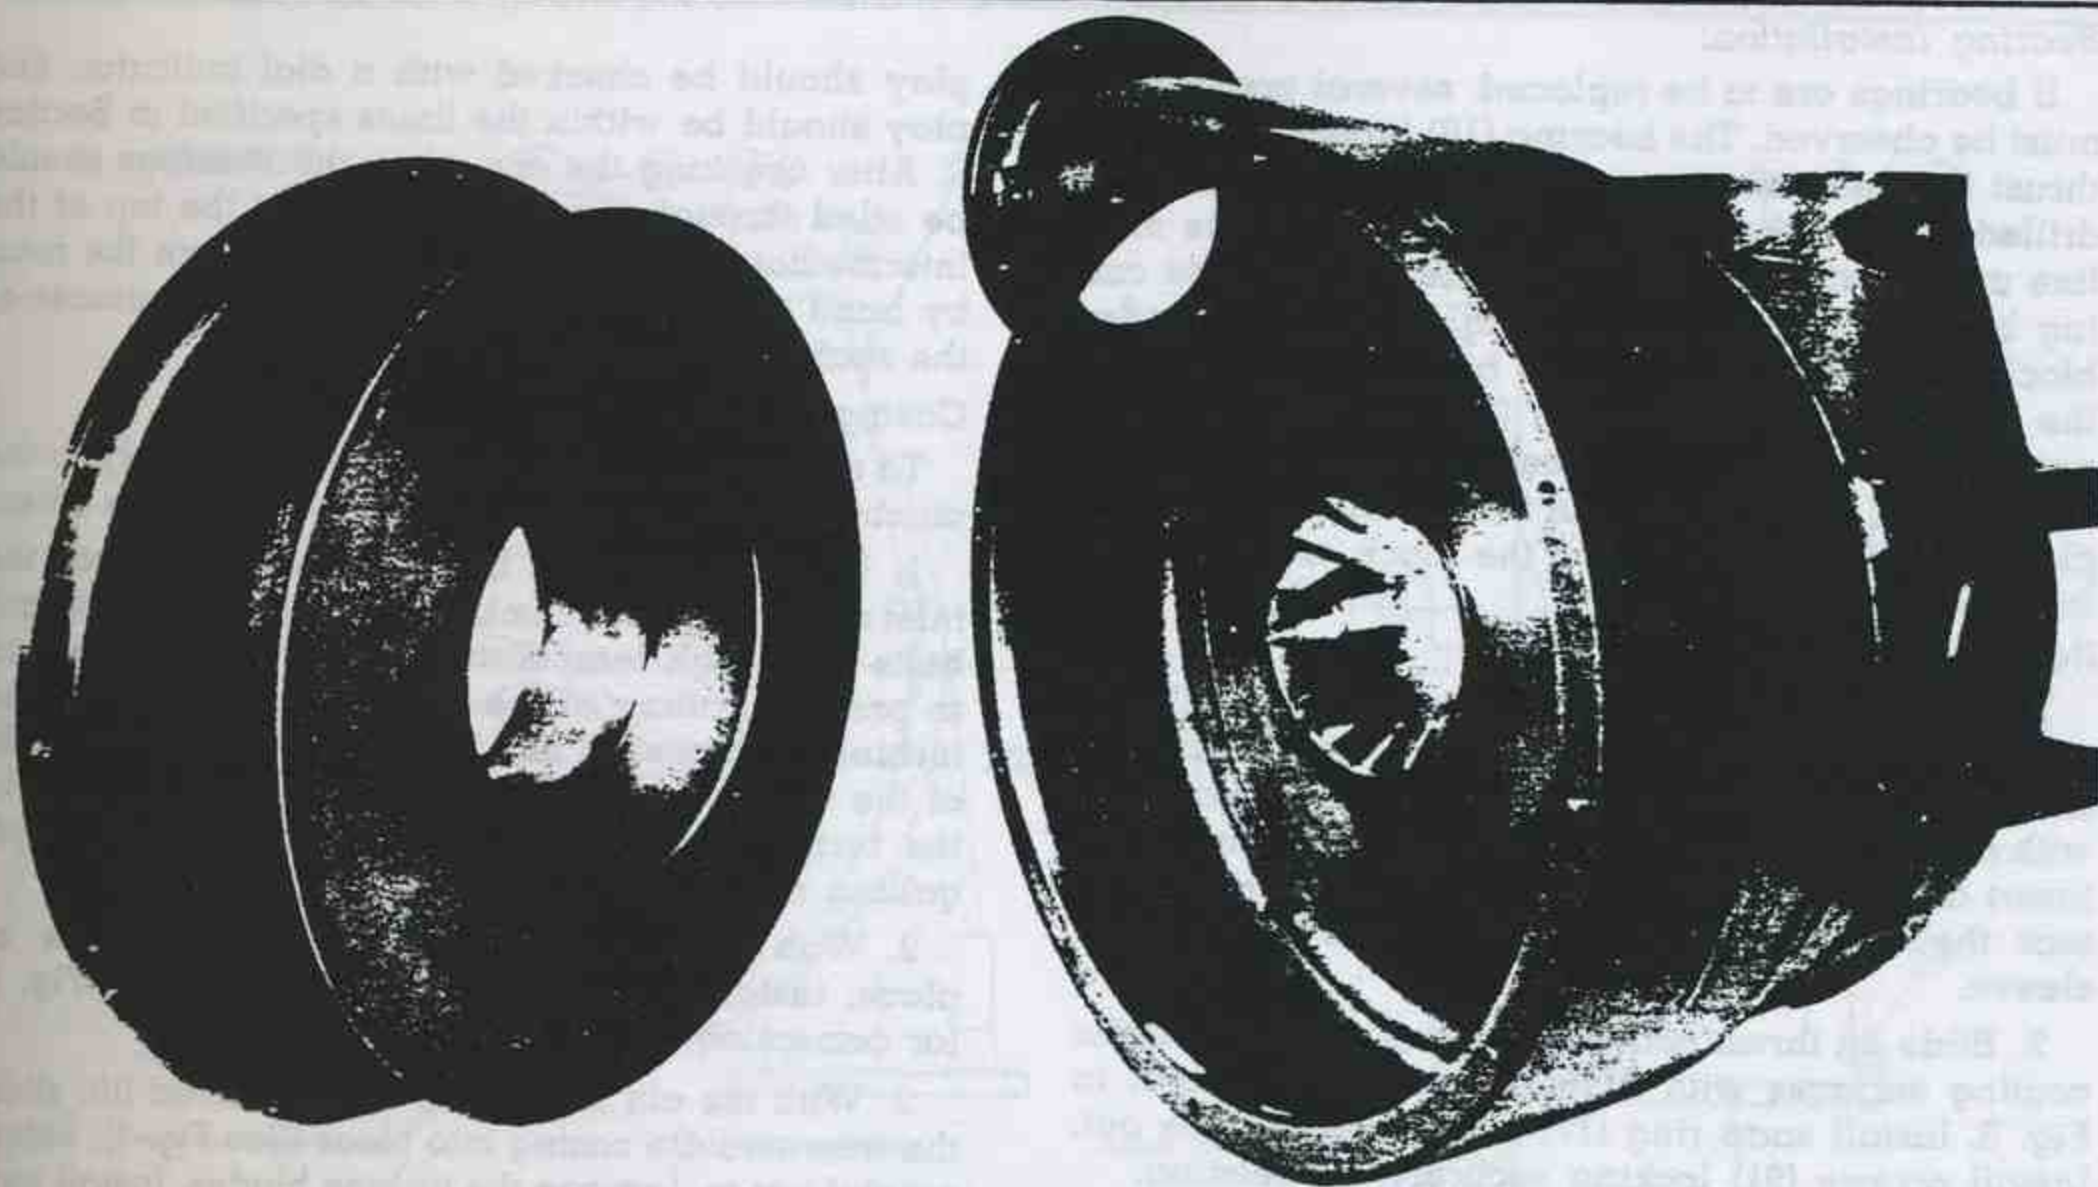
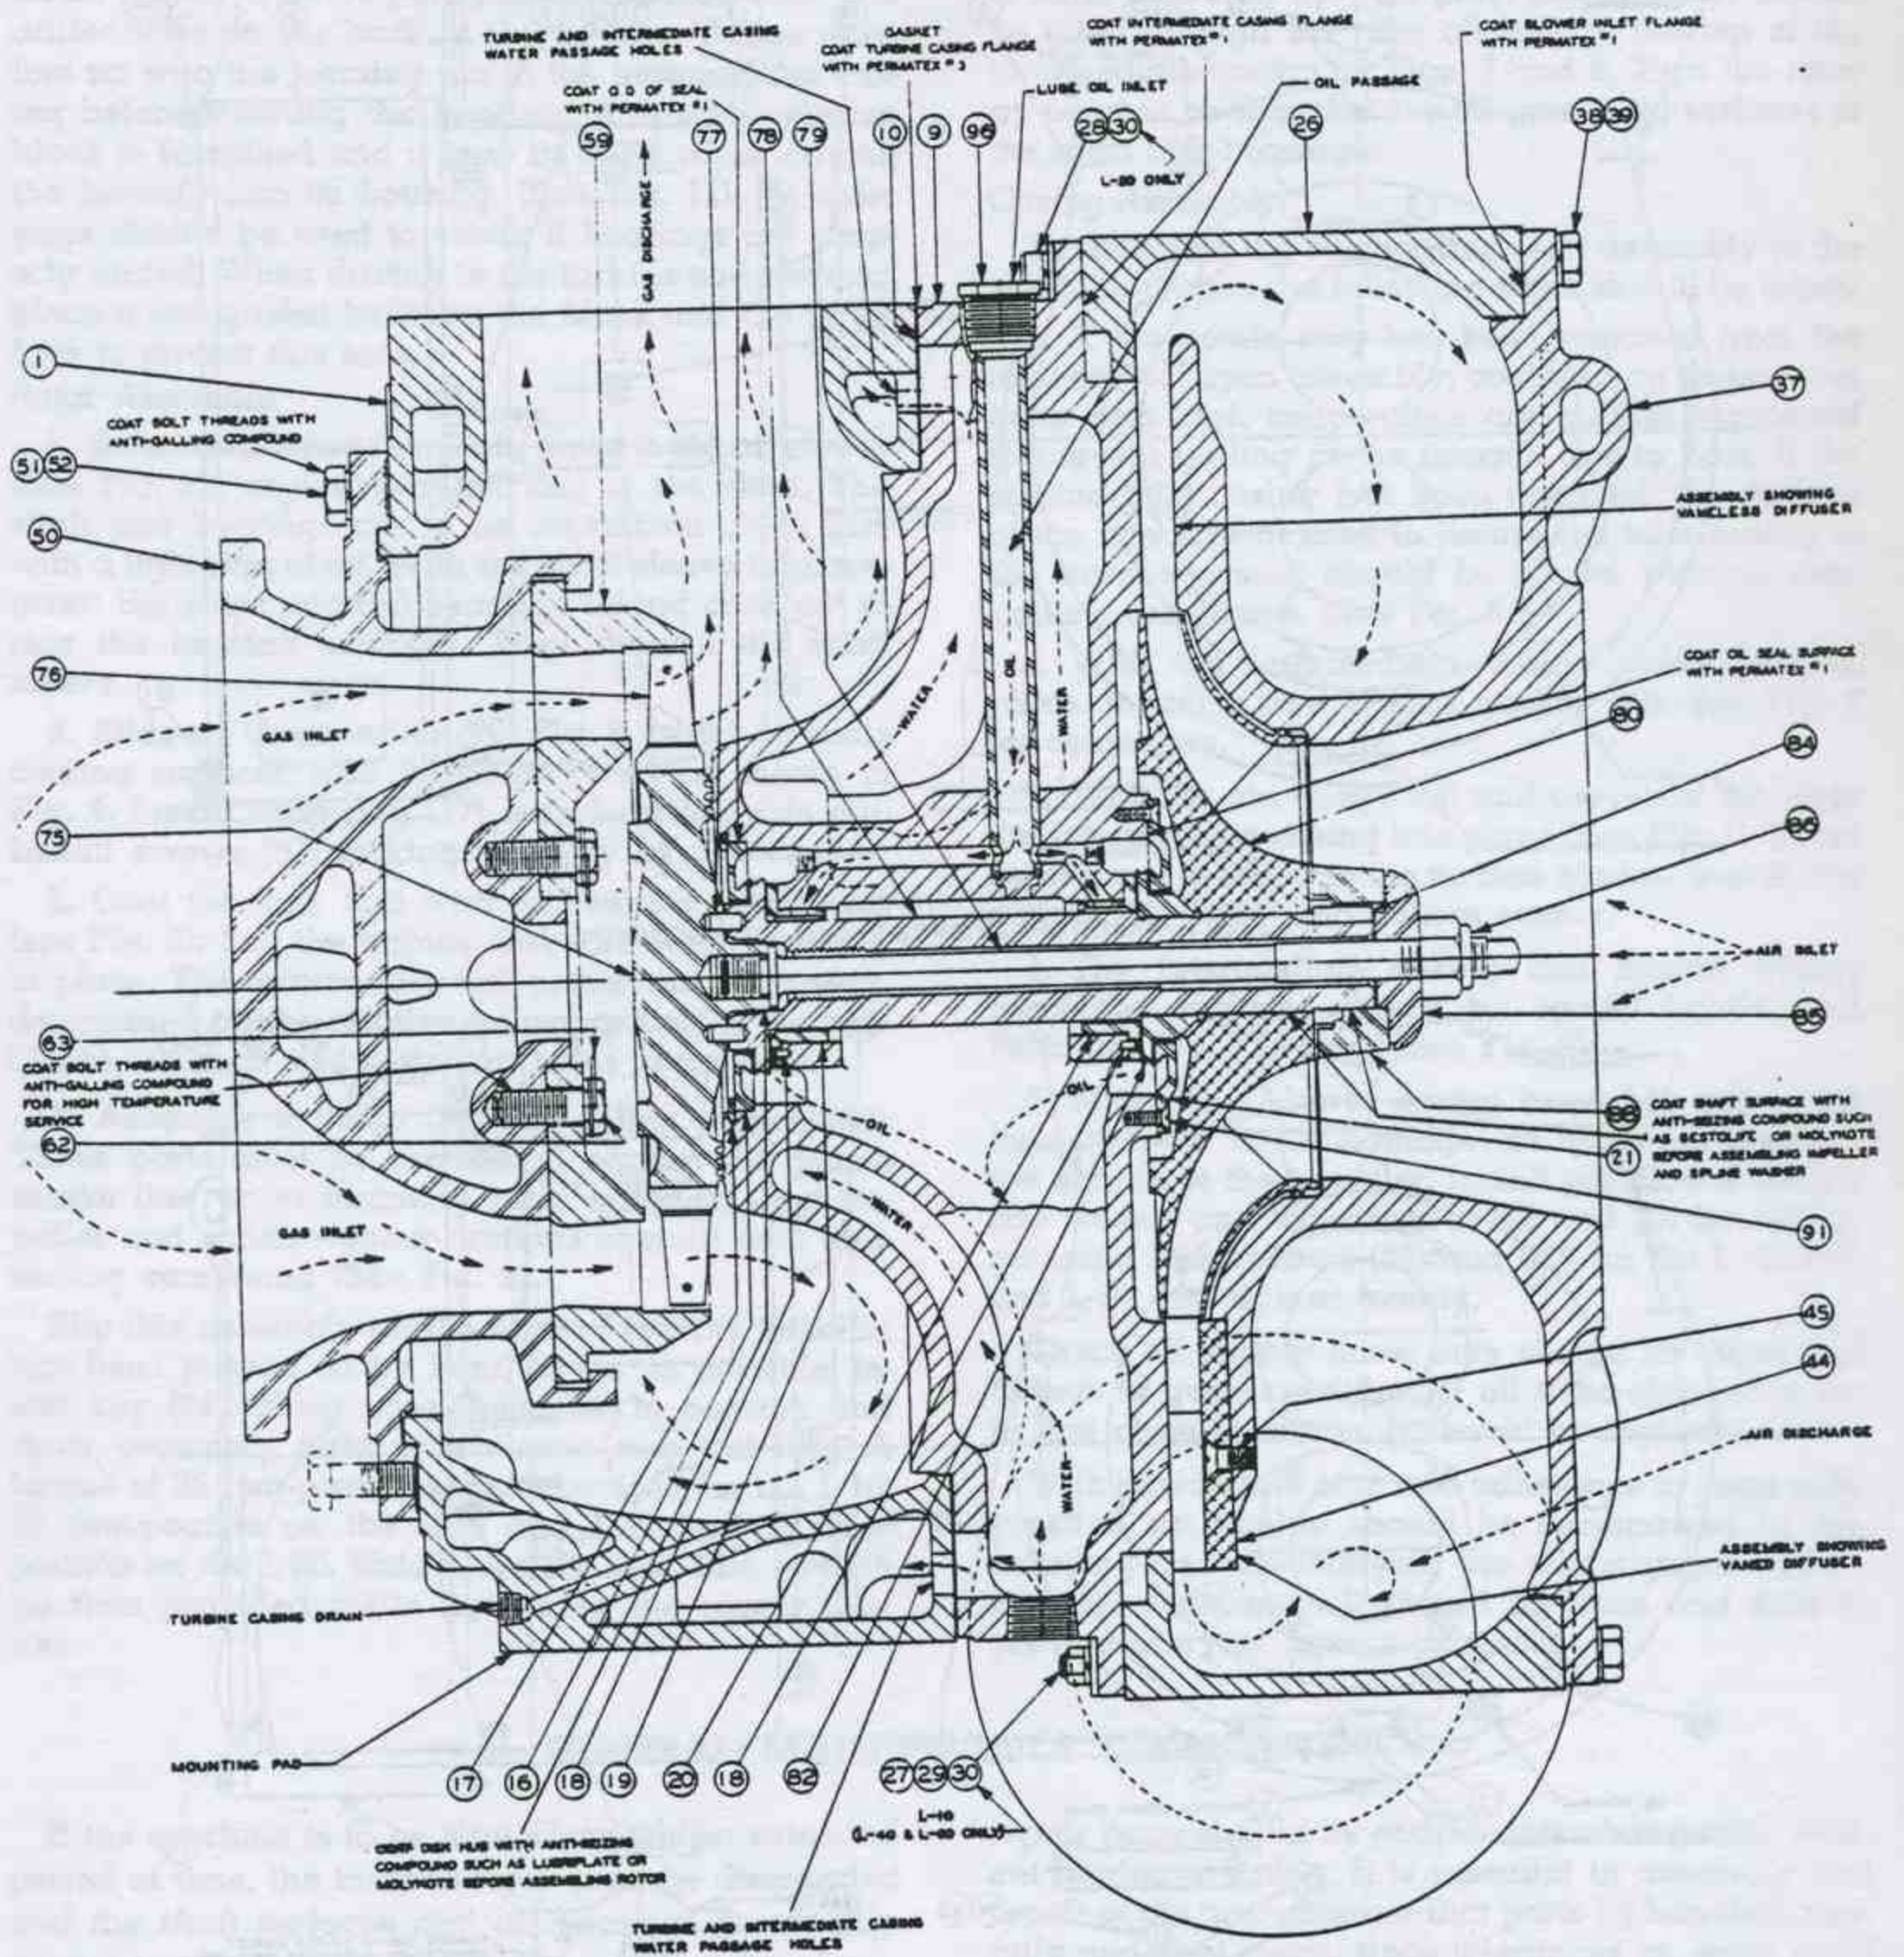
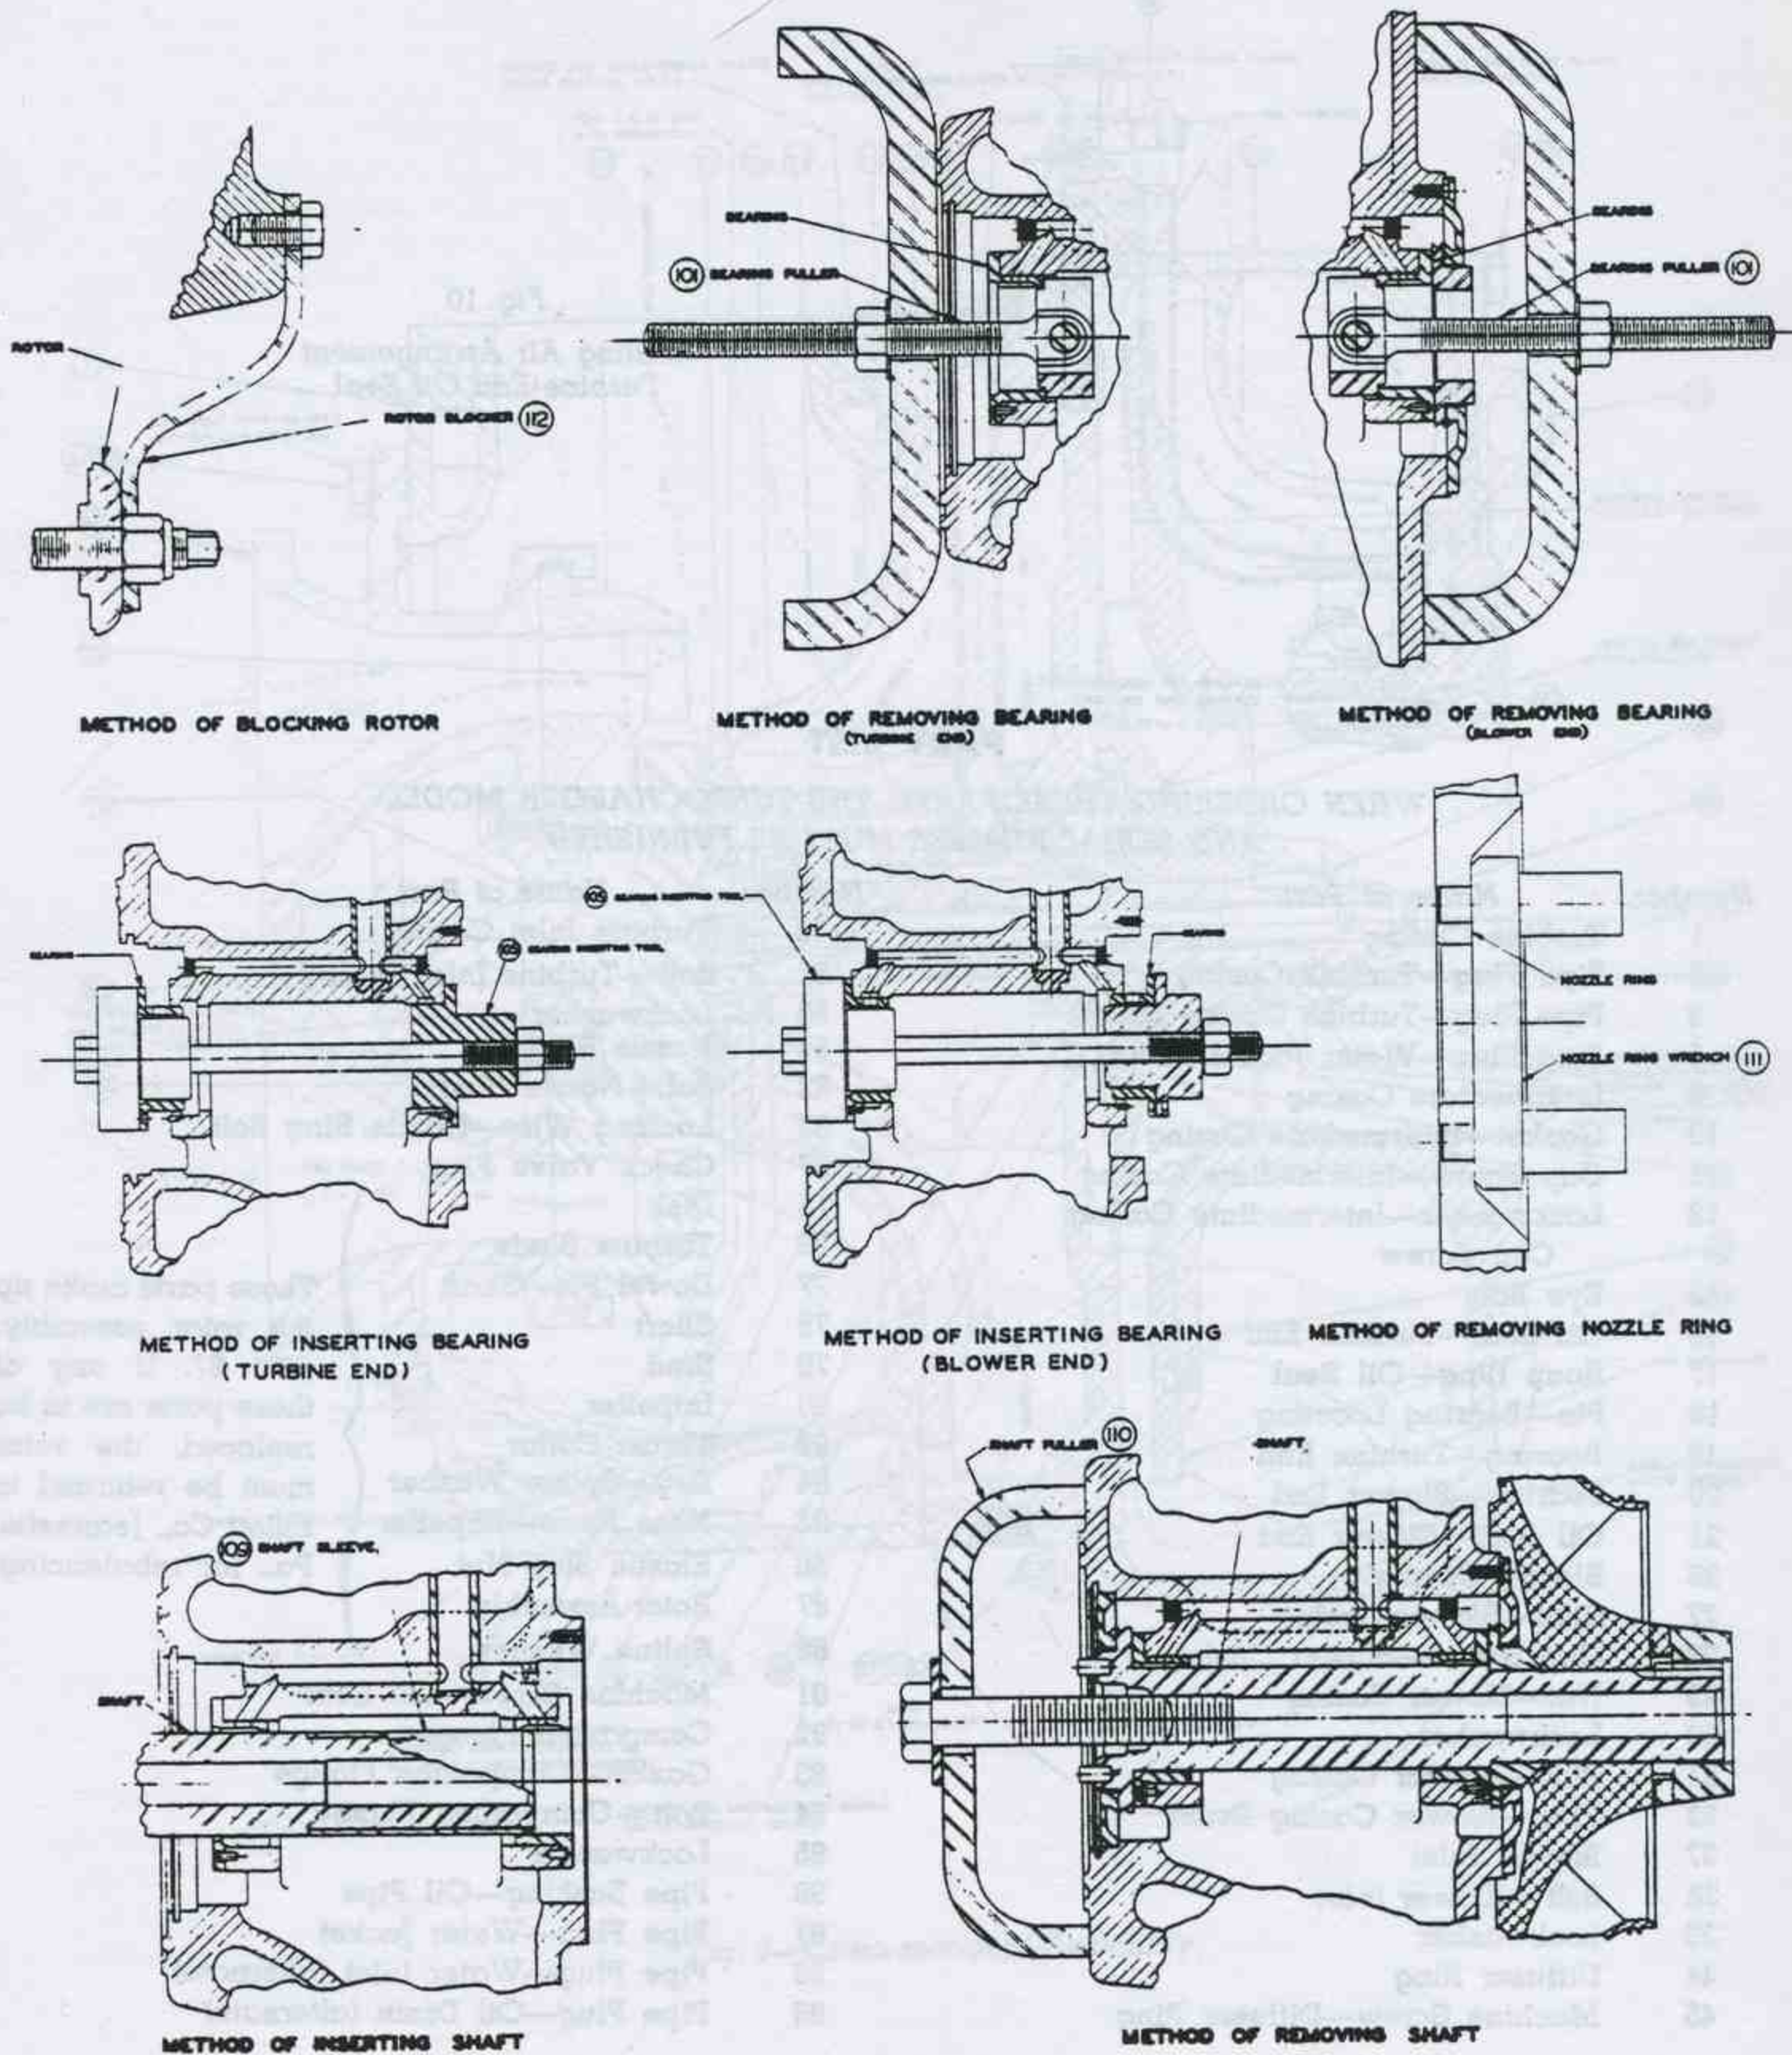

Fig. 6—Partially Dismantled View Showing Blower Inlet Removed for Cleaning.
Fig. 9—Cross-sectional Assembly
Fig. 11—Method of Using Special Tools
The impeller and diffuser should be cleaned every 4,000 hours or less, depending on service conditions, to maintain optimum turbocharger performance. Remove the blower inlet cap screws (38), Fig. 9. Using these cap screws as jacking screws, break the flange connection between the blower inlet and the blower casing. With the aid of the lifting lug and an overhead lift remove the blower inlet (37) (see Fig. 6). This part must be pulled out along the rotational axis to avoid damaging the impeller shroud labyrinth seal rings. The impeller, diffuser and blower casing
1. Prevent rotor rotation by applying a wrench to the projected flats on the front of the stud (79), Fig. 9, and remove the elastic stop nut (86) and nose piece (85). Support the turbine disk by hand and with a soft hammer tap the free end of the stud forcing the turbine disk from its mounting. Do not remove the stud from the turbine disk.
2. With the special pliers provided in the tool kit, remove the turbine end snap ring (17).
3. Remove the shaft and turbine end oil seal with the aid of the shaft puller assembly provided for this purpose (see Fig. 11). Support impeller by hand during this operation.
If bearings must be replaced, remove the screws (91) holding the oil seal, and pull out the bearings with the bearing puller. (See Fig. 11.) The blower end oil seal (21) and thrust washer (82) will come out with the blower end bearing (20). The turbine end bearing (19) may be similarly removed. (See Fig. 11.) Precautions must be taken to prevent damage to bearing housing bore.
If bearings are to be replaced, several precautions must be observed. The bearing (19) having a grooved thrust flange must be put in on the turbine side. The drilled hole on the back of the bearing flange must line up with the locating pin in the intermediate casing before inserting the bearing. A special wooden block is furnished and it is to be used when driving the bearing into its housing. (See Fig. 11). A feeler gage should be used to check if bearings are properly seated. When driving in the turbine end bearing, place a soft gasket between the block and the thrust face to protect this face.
2. Slide on thrust collar (82) Fig. 9. Insert oil seals coating surfaces with Permatex No. 1 as shown in Fig. 9. Install snap ring (17) with bevelled side out. Install screws (91) locking securely by peening.
3. Coat the disk hub with anti-seizing compound (see Fig. 9). Tap the turbine disk and stud assembly in place. The turbine disk will mount only one way, determined by the relative polar position of the pins (77) in the shaft and matching holes in the disk.
4. Assemble impeller (80) and spline washer (88). These parts must be assembled so that the punch marks line up to maintain rotor balance. Coat impeller and spline washer portions of shaft with anti-seizing compound (See Fig. 9).
1. If the nozzle ring has been removed from the inlet casing, upon assembly, coat the cap screws and bolts with high temperature anti-galling compound to prevent galling of the threads due to heat. If the turbine inlet casing has been removed, the threads of the cap screws used to secure the inlet casing to the turbine casing should be coated with an anti-galling compound. (See Fig. 9.)
2. With the intermediate casing guide pins in place, install a new casing gasket (10). See Fig. 9 for cementing.
4. The intermediate casing and blower casing machined surfaces should be coated lightly with Permatex No. 1 cement (see Fig. 9).
5. Mount the blower casing assembly into place being careful not to damage the labyrinth rings on the shroud of the impeller. Install the blower casing cap screws and lockwashers (28 and 30) for L-20 or nuts and lockwashers (29) and (30) for the L-10, L-40 and L-60, and tighten evenly.